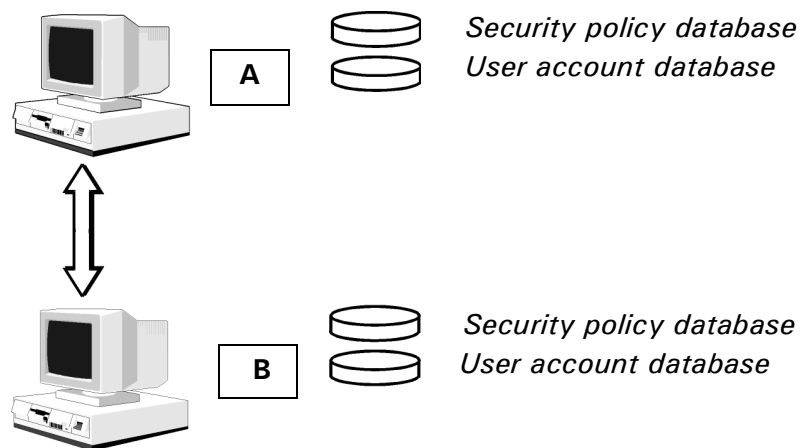

Figure 12-2
When the user subsequently attempts to access a resource on a different computer (B), for example he attempts to access a “shared” drive on the second computer, his user name and password are forwarded to the computer (B) for “authentication”. If the user name and password match a user account on the target computer (B), then the user can access the resources that have been permitted by the security policy database on the target computer (B). See Figure 12-2.